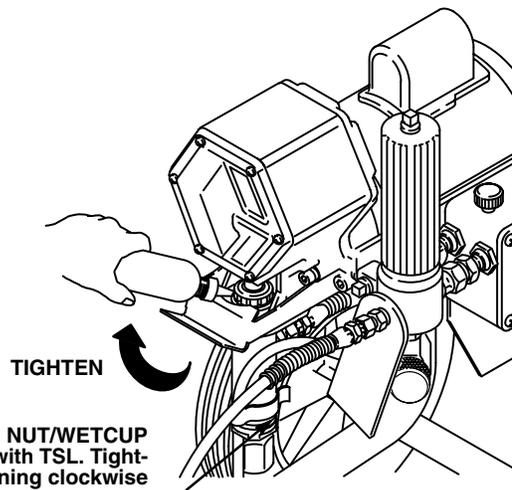

Fig 12-1
1. **Check the packing nut/wetcup daily**. First relieve the pressure; see page 9. Be sure the wetcup is 1/3 full of TSL at all times to help prevent fluid buildup on the piston rod and premature wear of packings. The packing nut should be tight enough to stop leakage, but no tighter. Overtightening may cause binding and excessive packing wear. See Fig 12-1.